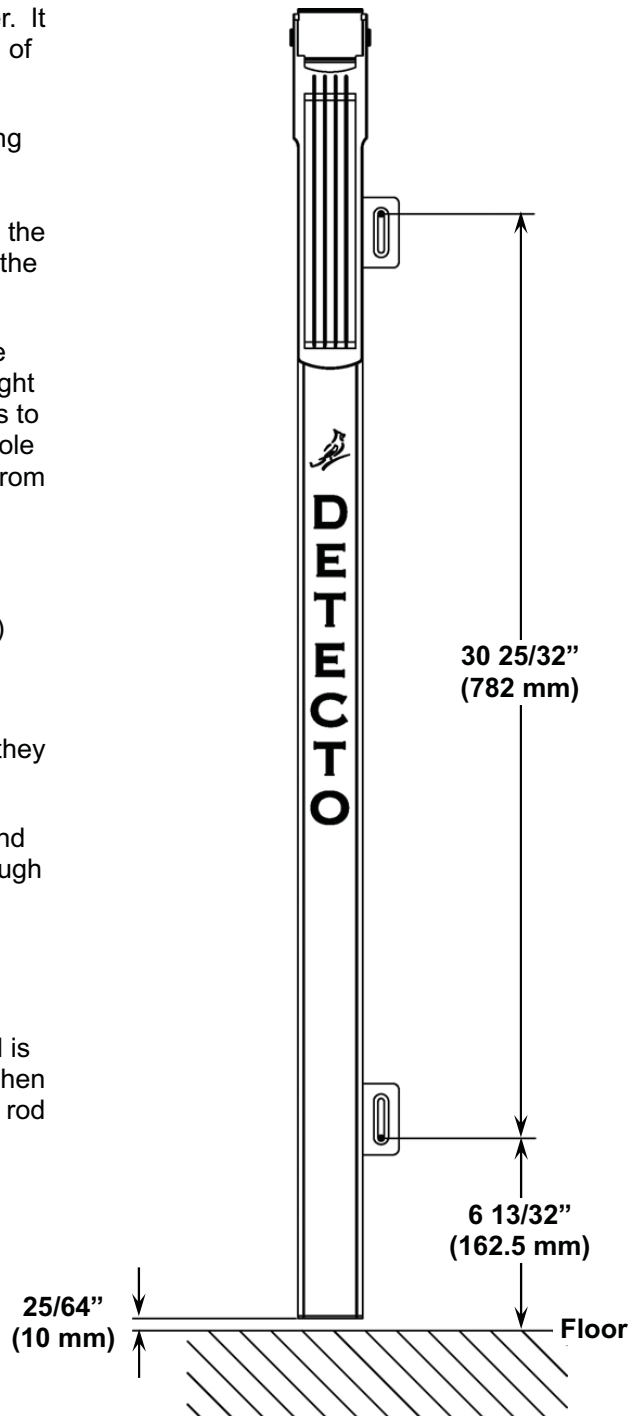

Figure No. 1
3. Referring to Figure No. 1 and using the height rod as a template, place the height rod against the wall and mark the holes to use to mount it. The lower mounting hole should be 6 13/32 inches (162.5 mm) from the floor and the upper mounting hole should be 30 25/32 inches (782.0 mm) from the lower hole.
4. Remove the height rod and drill two (2) 13/64" (5 mm) holes in the wall for the mounting wall anchors.
6. Place the height rod against the wall and insert the two (2) M3.0x25 screws through the bracket and into the wall anchors.